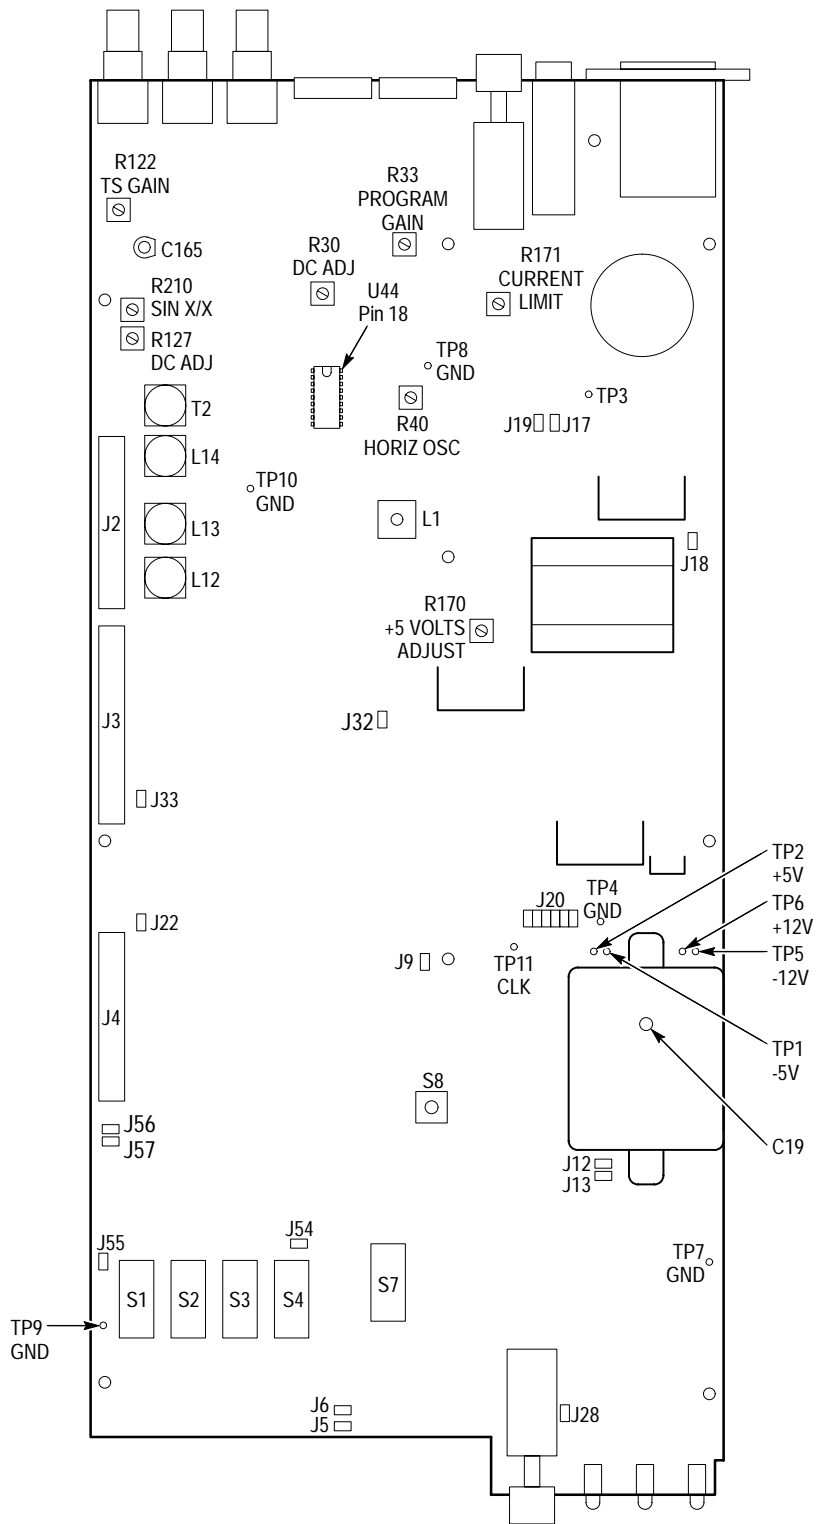

Figure 6-1: Adjustments and test points
- Figure 6-1 shows the location of adjustments and test points (TP) used in this procedure.
2. Connect the X10 probe from the Frequency Counter input to VITS inserter TP 11. See Figure 6-1 (on page 6-4) for test point location.
4. Remove the plastic plug from the oscillator cover to reveal C19. See Figure 6-1.